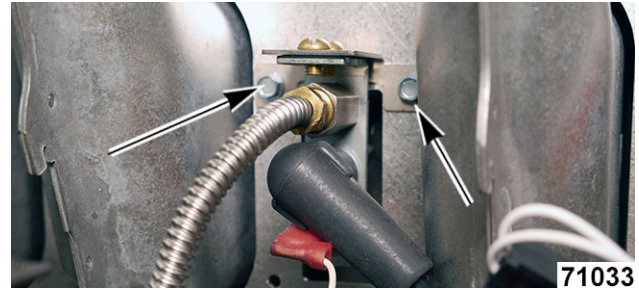

Fig. 71
7. Remove pilot assembly mounting screws (Fig. 71).